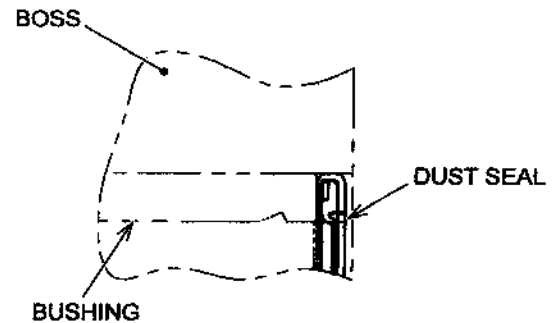
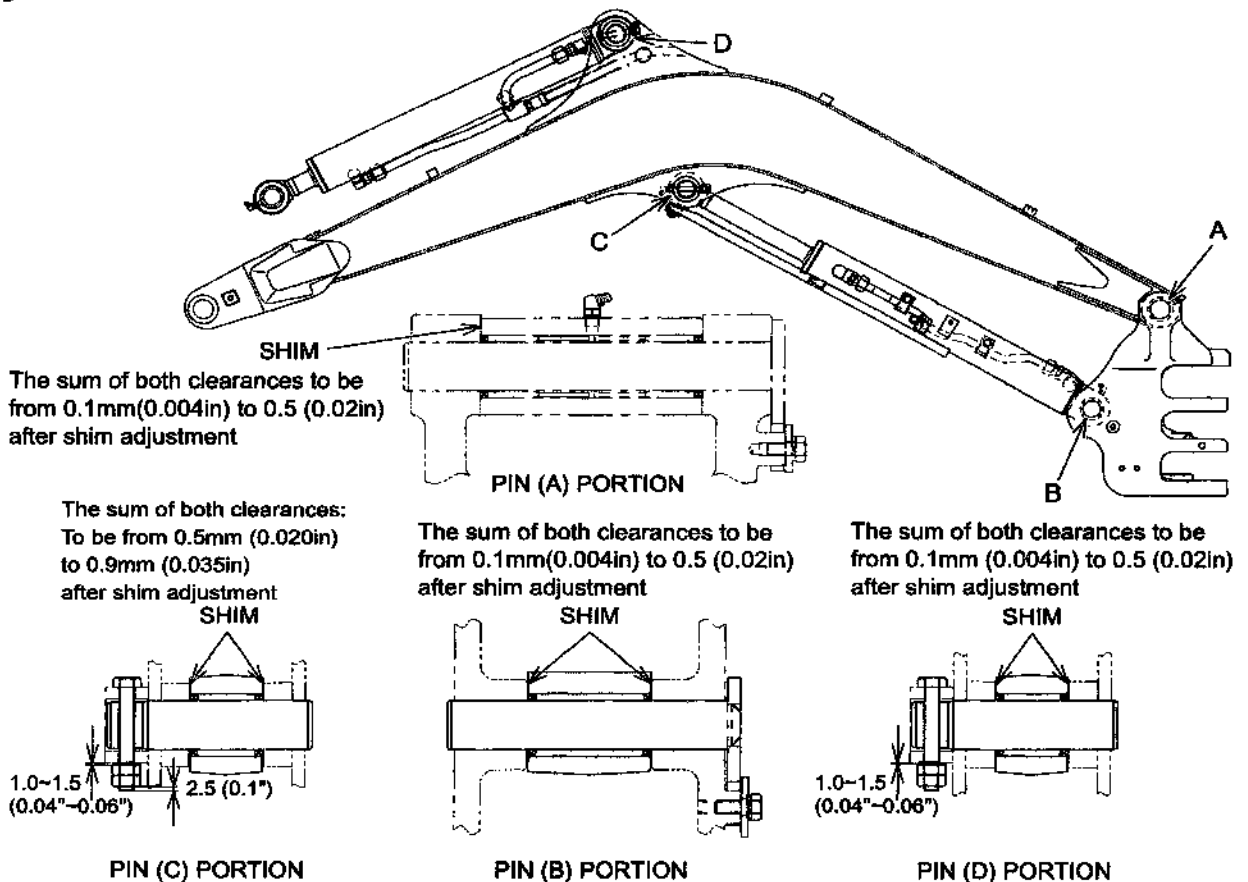

Fig. 2-15 Dust seal installation
Fig. 2-16 Sectional view of Installing Pin
- (1) Make clean the welded area on each of structure to inspect any cracks there.
- (2) Check the dust seal for damages, and replace the faulty dust seal to new one (referring to Fig. 2-15 for the installing procedures).
- (3) Referring to the Section "ATTACHMENT DIMENSIONS" of Specifications, replace the worn-out pin and bush to new ones.
- (4) Before inserting the pin, apply grease to the shaft area.
- (5) Referring to Fig. 2-16, install the capscrew and nuts to prevent the pin from coming out.
- (6) Make sure to provide an appropriate clearance for thrust direction at the installation of pin referring to Fig. 2-16.
- (7) For the adjustment for clearance, insert resin (plastic) shim first, then adjust the clearance with steel shims.